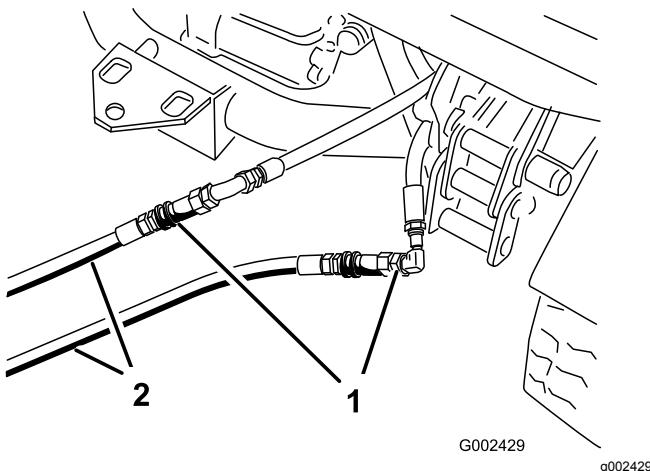

Figure 66
3. On the disabled machine, connect the 2 jumper hoses to the hoses that were disconnected (Figure 66).